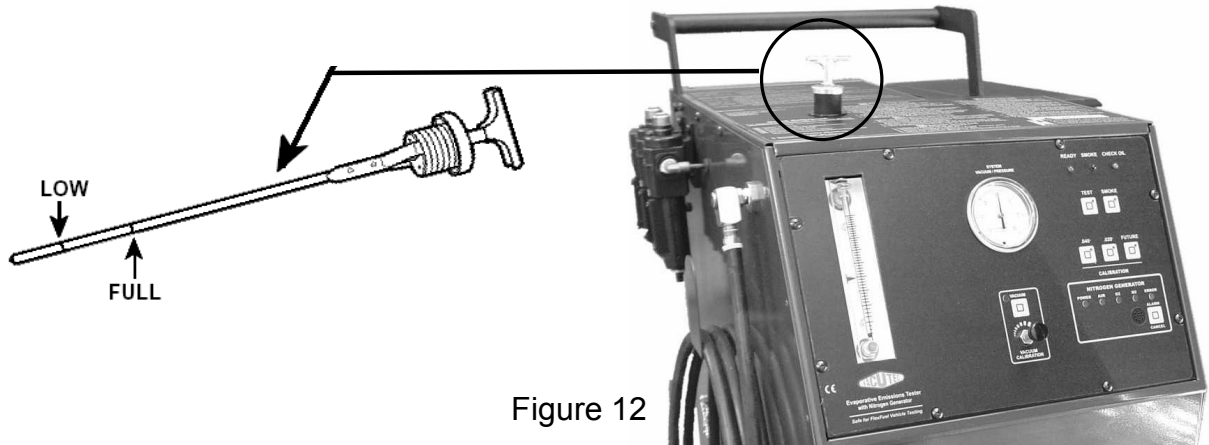

Figure 12
4. Be sure the Tester's System Vacuum Gauge is indicating system vacuum after having performed steps 1-3 above. (Figure 12). Press VACUUM button again if required to turn vacuum ON.
Similar to checking and topping off the oil in a vehicle's engine, you should maintain the Tester's solution level at the **FULL** mark. (Figure 12)